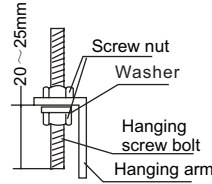
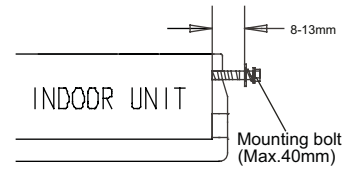

Fig.42-10
Fig.42-11
2. Location the hanging arm on the hanging screw bolt. (Refer to Fig.42-10) Prepare the mounting bolts on the unit. (Refer to Fig.42-11)